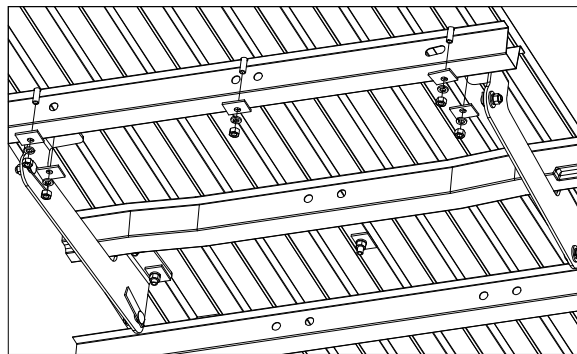

Figure E4: View under bed looking toward rear of truck. (Frame not shown.)
- 4. Install hardware on forward mounting rail.** Under the bed install an offset square washer, 1/2" lock washer, and 1/2" finish nut on each of the carriage bolts, see Figure E4. Place the U-shaped spacers. Hand tighten each nut.